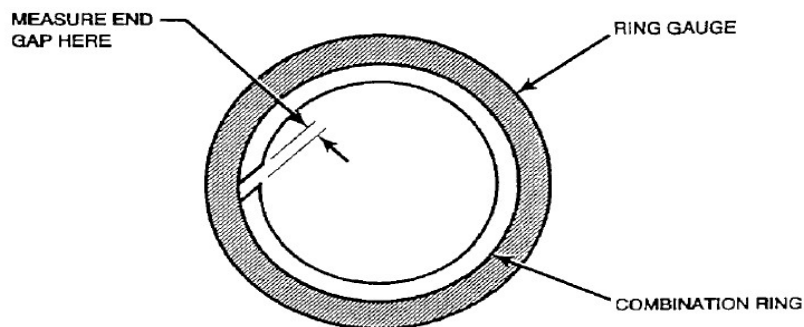

Figure 4-21. Taking End Gap Clearance
2. Position the new piston rings squarely into the cylinder bore. The cylinder bore is tapered on the head end for ease of installing piston assembly. When measuring end gap ensure rings are positioned in the bore past the tapered area. Check the end gap (See Figure 4-21). Refer to the data in Table 4-4 for correct end gap.